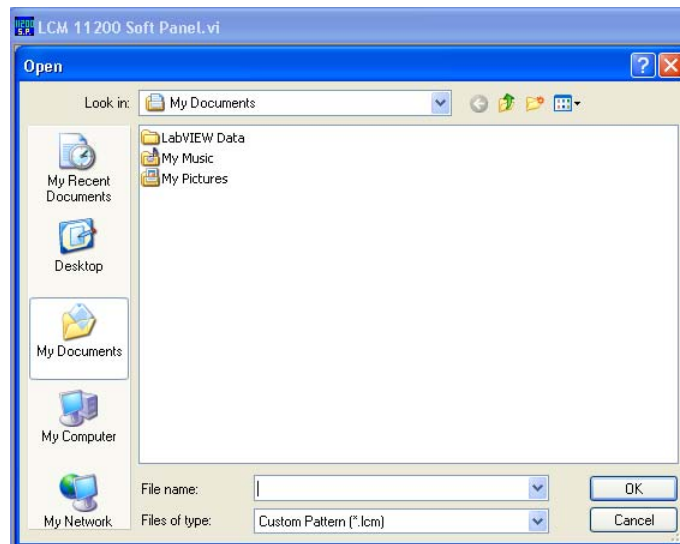

Figure 4-4 Dialog Box for Storing a File
- Store: It saves the important parameters into a file named with the extension of .lcm as Figure 4-4 shows.